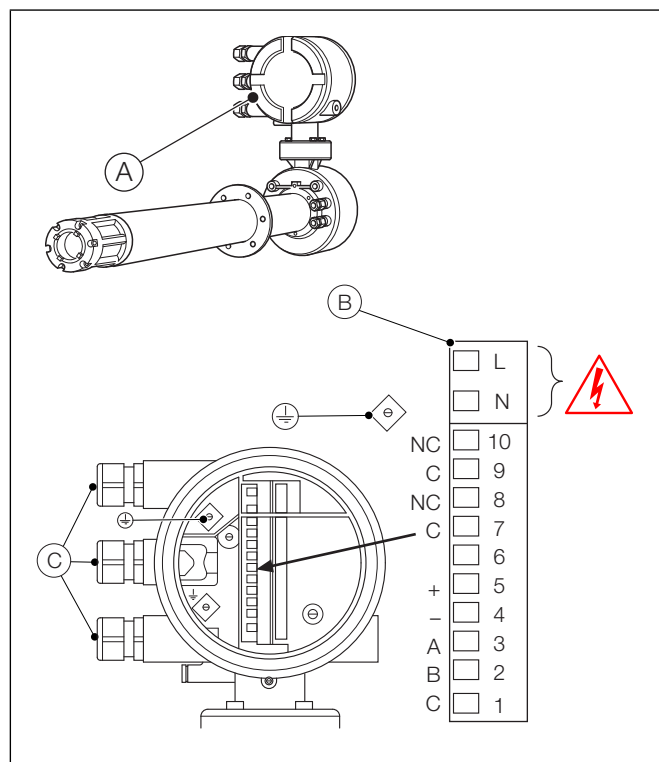

Fig. 5.1 Disconnecting an Integral Probe
Referring to Fig. 5.1:
3. Remove the transmitter terminal chamber cap (A).
4. Before disconnecting any of the field terminations, use the blank terminal block (B) in Fig. 5.1 to note the existing transmitter connections.
6. Loosen cable glands (C) (as required) and separate and insulate individual mains and signal cable terminations as a safety precaution.